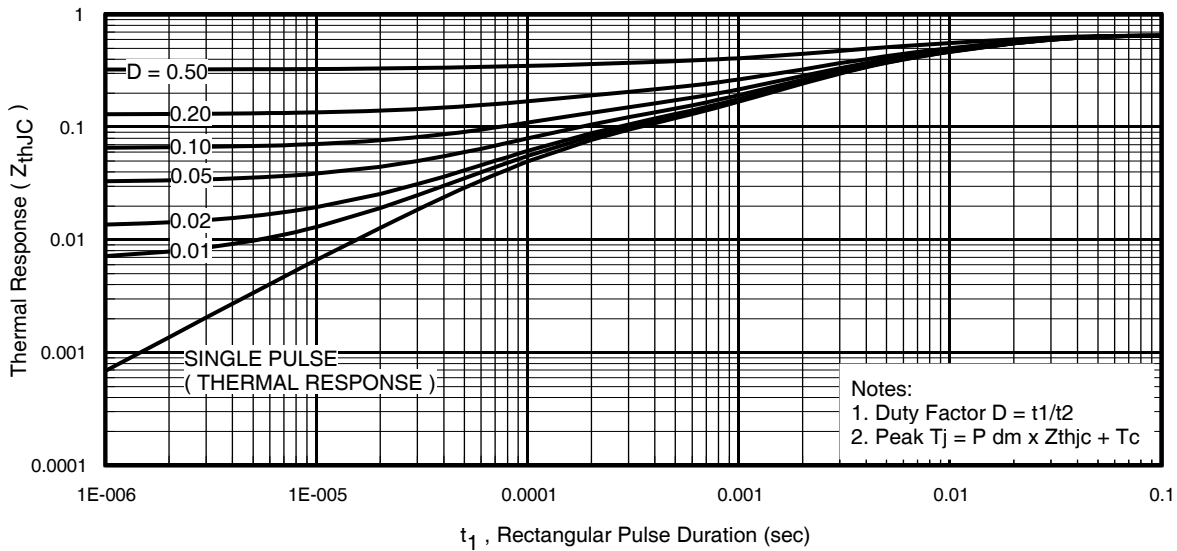

Fig 14. Maximum Effective Transient Thermal Impedance, Junction-to-Case
Notes on Repetitive Avalanche Curves , Figures 14, 15:
7.  $\Delta T$  = Allowable rise in junction temperature, not to exceed  $T_{jmax}$  (assumed as  $25^\circ C$  in Figure 14, 15).